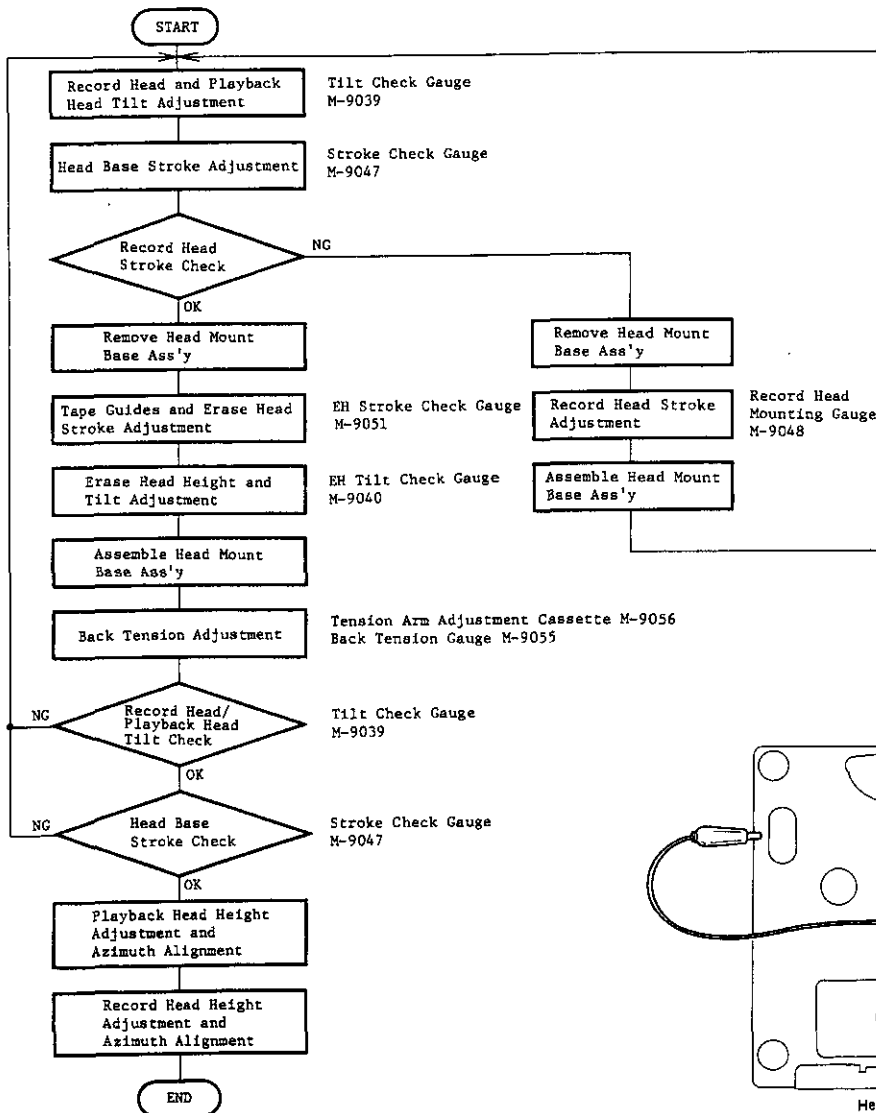
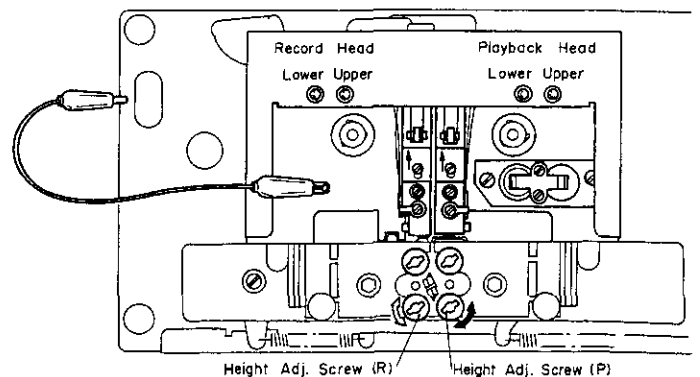

Fig. 4.4
Fig. 4.5
Note: On items 4.3 – 4.9, refer to Fig. 4.4 flow chart. Refer to Figs. 4.5 and 4.6.
- (1) Load a Tilt Check Gauge M-9039 (DA09039A) in the N-682ZX.
- (2) Clip the grounding terminal of the Tilt Check Gauge with one end of the cord with clip, and the chassis of the N-682ZX with the other end.
- (3) Remove both of the Height Gears.
- (4) Set the N-682ZX in Play mode. Check to insure whether the Beacons Playback Head "Upper" or "Lower" and Record Head "Upper" or "Lower" are illuminating. In order not to give damages onto the head surfaces, push both of slide knobs of the Gauge to the direction of arrow marks, then return them to the original place to be in contact with record head and playback head surfaces after Play mode is securely locked.
- (5) Check to insure freedom from contact between the Gauge and pad lifter.
- (6) Beacon Playback Head "Lower" will light on when height adjustment screw (P) turned clockwise but Playback Head "Upper" when counterclockwise. Adjust so that both "Upper" and "Lower" will light on even when you move the slide knob to the direction of an arrow mark and then return them to the original place.
- (7) Same procedures will apply to the Beacons Record Head "Upper" and "Lower", except for the height adjustment screw (R).
- (8) Set the N-682ZX in Stop mode and fit both of the serrated Height Gears. Then set the N-682ZX again in Play mode and insure all of the 4 Beacons are illuminating. If not, (3) through (7) will have to be repeated till satisfactory results are obtained.